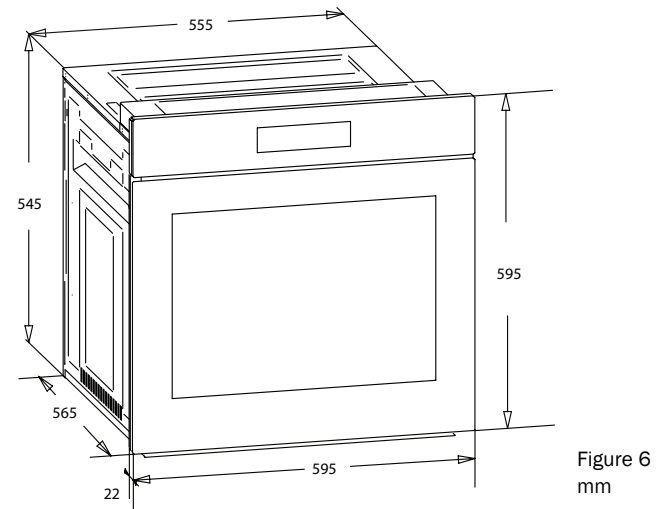

Figure 6
- Product dimensions are provided in the figure 6.